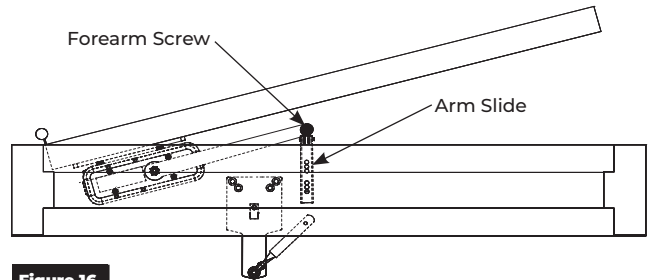

Figure 16
5. Open the door approximately 30° and slide the connecting rod into the arm slide. (Figure 16)